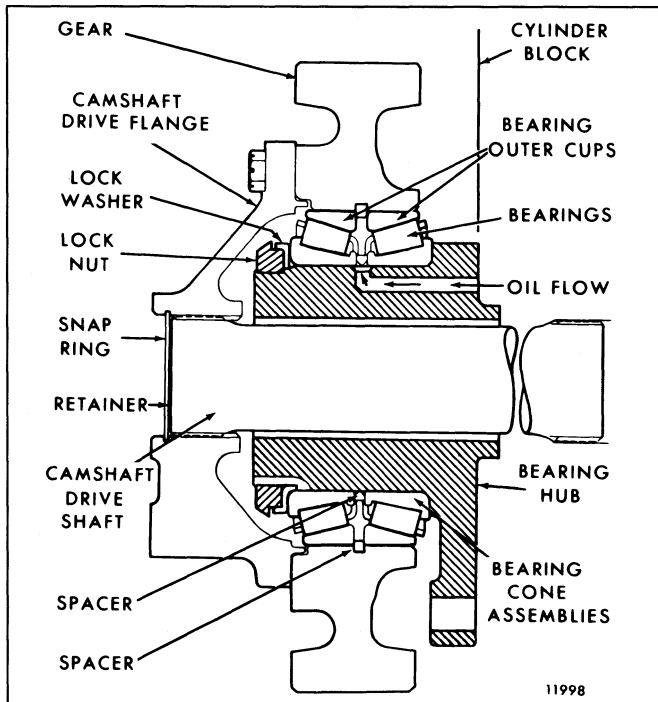

Fig. 1 - Camshaft Gear Mounting
The right-bank and left-bank camshaft gears (Fig. 1) are mounted on double-row tapered roller bearings which are supported on identical stationary hubs. Each camshaft gear hub is held in position against the block by three (3) bolts. The gear and bearing assembly is held in position on the hub by a special locknut and lock washer.
The camshaft gear bearings are pressure lubricated by oil from the cylinder block oil gallery which enters the hub through a longitudinal drilled passage in the hub (Fig. 1). Excess oil leaving the camshaft bearings lubricates the camshaft gears.
2. Remove the snap ring and retainer from the camshaft drive flange (Fig. 1).